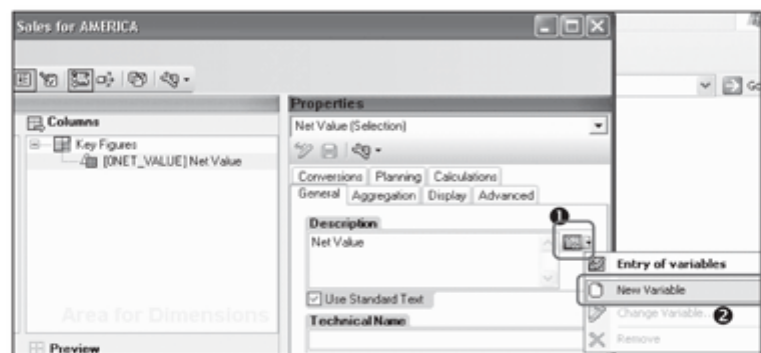

Figure 9.37 Calling the Variable Editor for a Text Variable
Text variables can be used if you want to have flexible descriptions for different query elements. You can use a variable in the description wherever there is a variable icon  available. To call the variable editor, click on this icon (❶ of Figure 9.37), and then click on New Variable (❷).